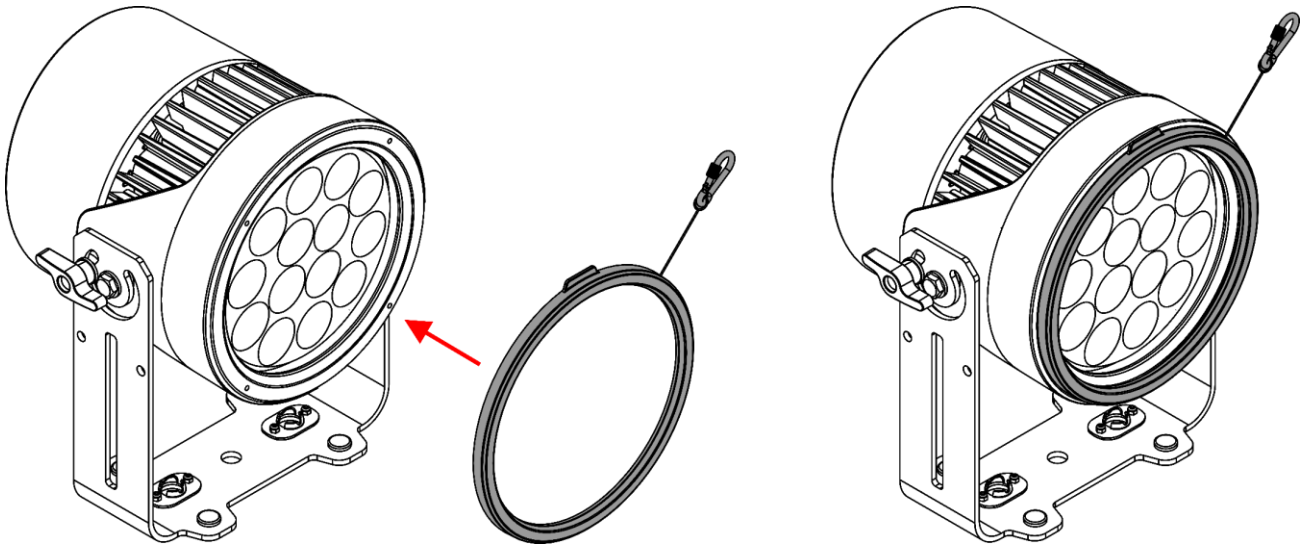

Fig. 15
- 02) Put the Diffusor on the lens of the device or on the Accessory Holder (if installed) as shown in Fig. 15. The magnets in the Diffusor will keep it in position.